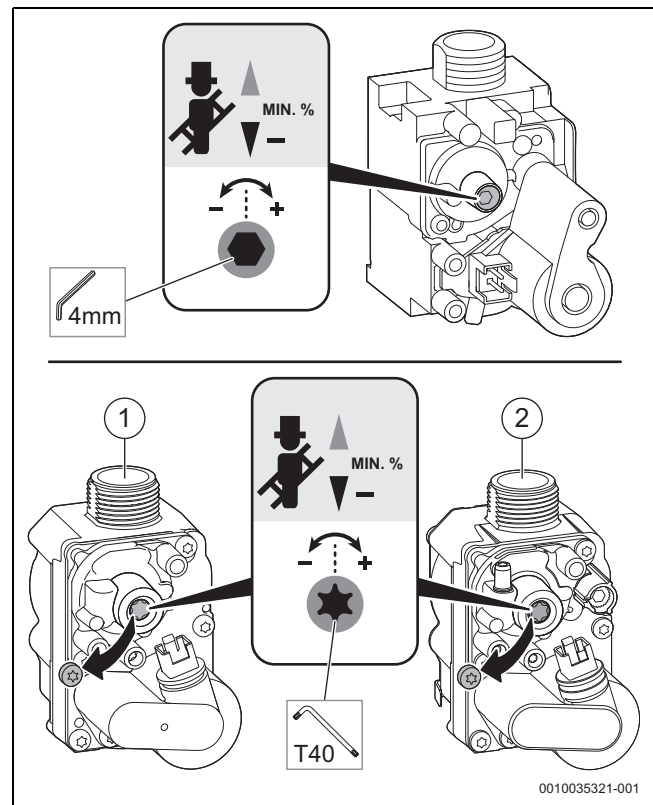

Fig. 84 Setting the CO2 content (above: SIT valve, below: Honeywell valves)
- ▶ Remove the seal from the adjusting screw of the gas valve (only gas valve is shown in the below Figure 84) and set the CO2 content for minimum rated output.